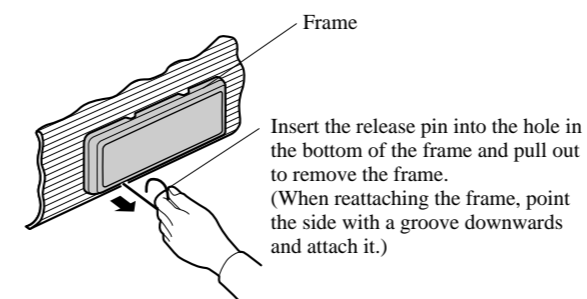
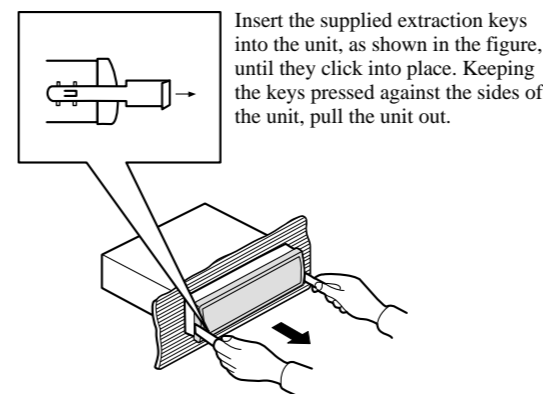

Fig. 7
Fig. 8
**Removing the Unit (Fig. 7) (Fig. 8)**